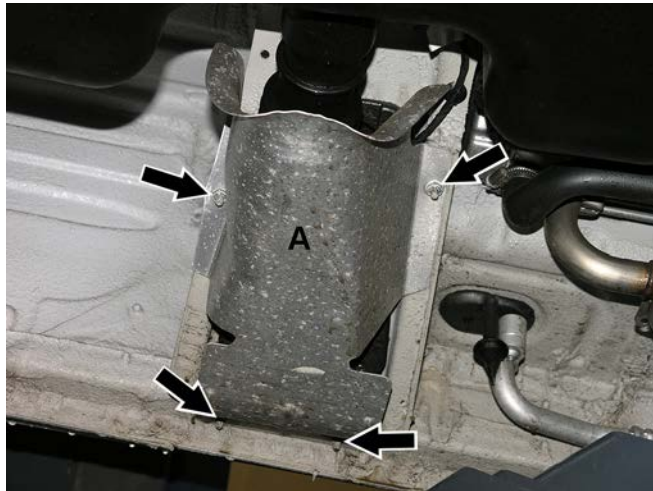

Figure 2 A Fuel filler neck shield
- Protective shield nuts (arrows, Figure 2) for filler neck.